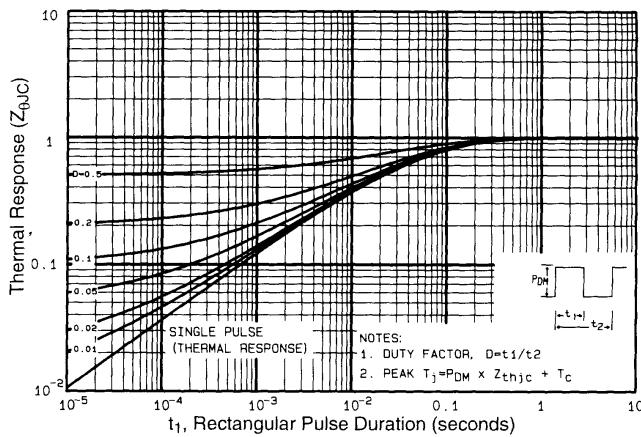

Fig 11. Maximum Effective Transient Thermal Impedance, Junction-to-Case
① Repetitive rating; pulse width limited by max. junction temperature (See Figure 11)
③ $I_{SD}\leq 51\text{A}$, $di/dt\leq 250\text{A}/\mu\text{s}$, $V_{DD}\leq V_{(\text{BR})\text{DSS}}$, $T_J\leq 175^\circ\text{C}$ ② $V_{DD}=25\text{V}$, starting $T_J=25^\circ\text{C}$, $L=179\mu\text{H}$